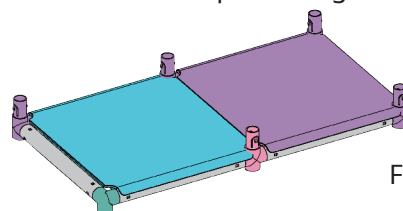

Fig. 5-2
- (2)When assembling two SQUARE FLAT, the two flat sides should be placed together (Fig. 5-2).